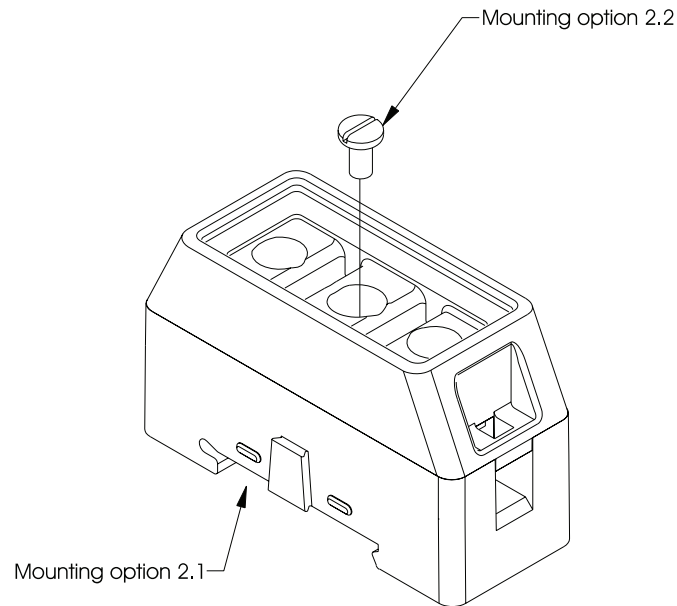

Figure 1
2.1 35 mm Din Rail Mount (see Figure 1)
2.2 Screw Mount (see Figure 1)